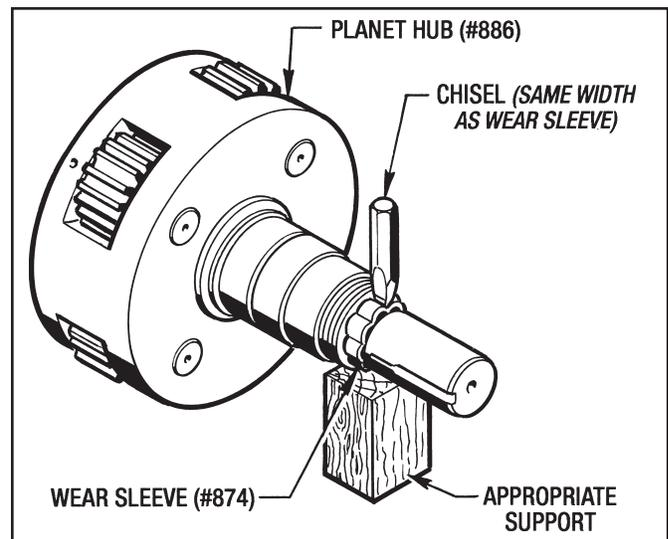

Figure 7.11 - Removing Wear Sleeve (#874)
1. With a chisel the same width as the Wear Sleeve (#874), make about 5 or 6 notches as shown in Figure 7.11. The Wear Sleeve (#874) can then be removed by hand.